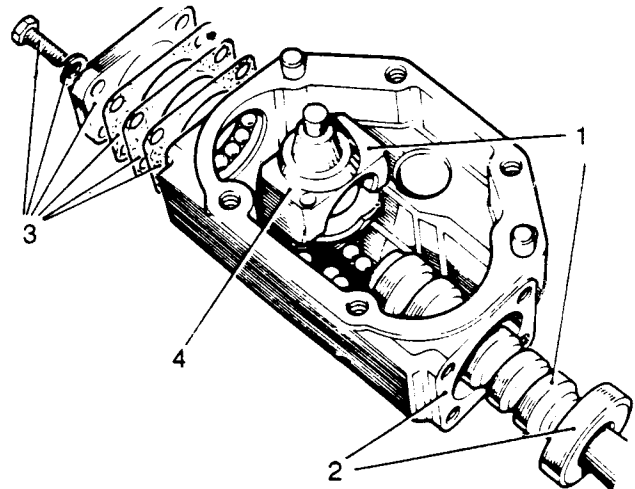

Fig L5.6
- (4) Refer to Fig L5.6. Fit the twelve 9,52 mm diameter ball bearings to the main nut and recirculating tube (4).
- (5) Replace the lower ball race, shims and end cover (3).
- (6) Wind the worm shaft through the main nut.
(7) Refit the upper ball race and fit the box to the inner column (2).
(8) Rotate the inner column to locate the main nut in the midway position on the worm shaft (1).